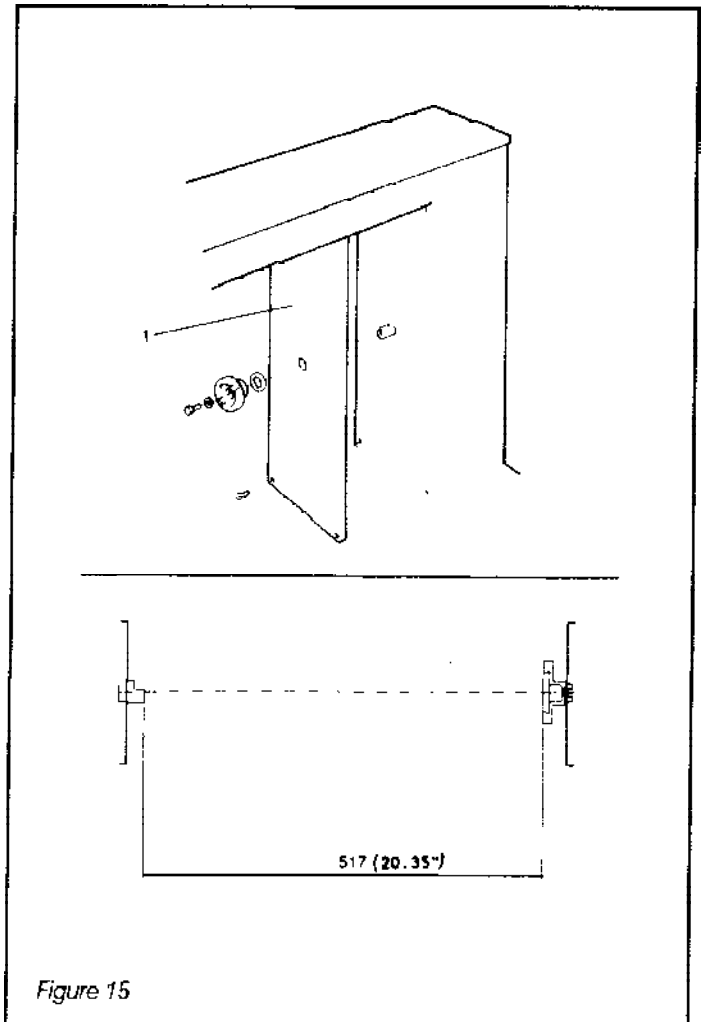

Figure 15
- NOTE: Check the direction of rotation, which is supposed to be counter-clockwise seen from the grill chamber side. The bearing is self-lubricating and should not be lubricated. Check the measurements between the bearing shelf and the hub according to Figure 15.
NOTE: The control measurements according to Figure 15.
NOTE: Make sure the bearing shelf is assembled with the milled surface horizontal. Note the control measurements according to Figure 15.
NOTE: Check the measurements according to Figure 15.